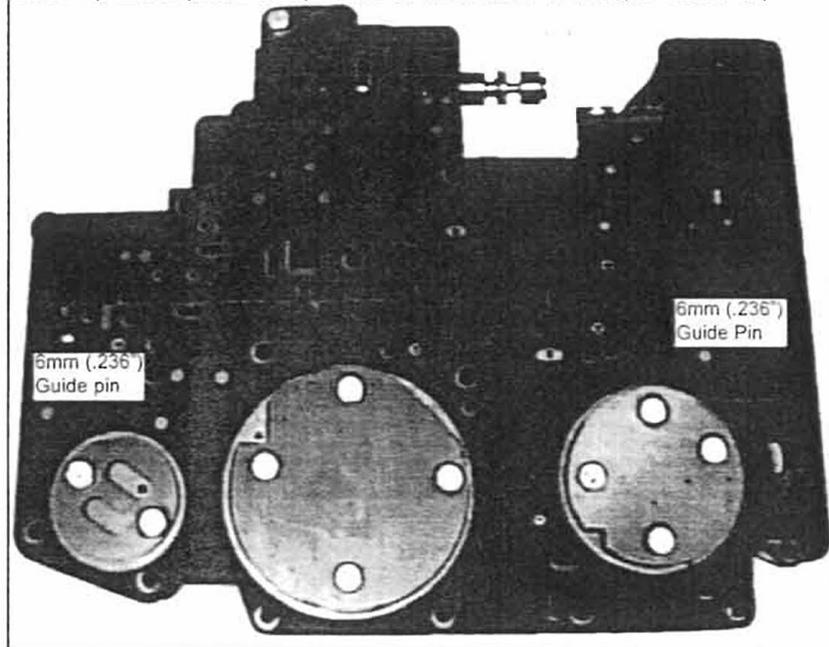
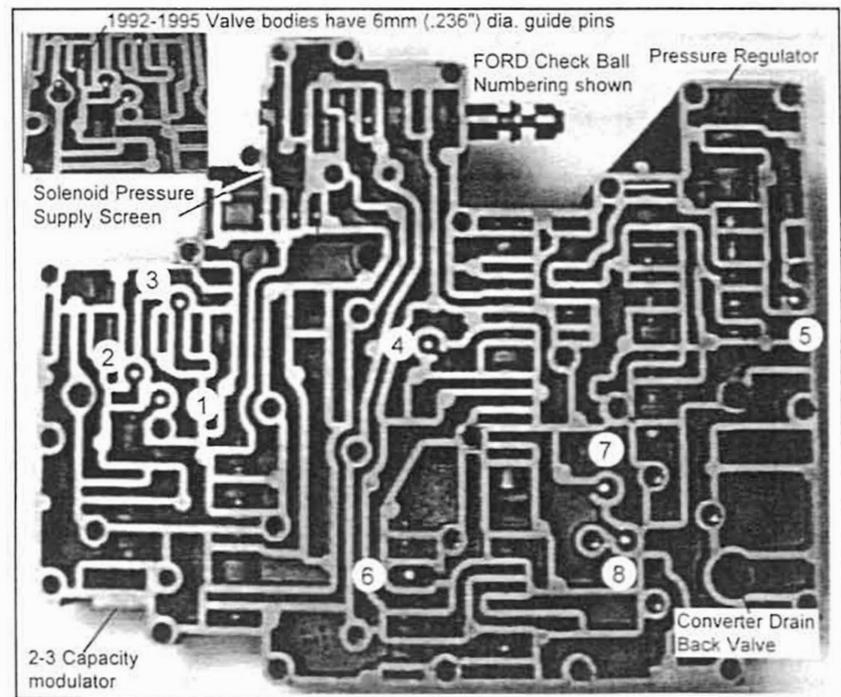

Figure 3. '92-'95 (TYPE A) Valve Body & Cover Plates
Figure 9. '92-'95 Check Ball Locations (TYPE A Valve Body)
valve body on a clean surface with the separator plate side facing up. Make a note of the orientation of the three round reinforcement plates (See Fig. 3). Remove the eleven (11) 8mm hex head bolts holding the three (3) round reinforcing plates and separator plate to the valve body. Carefully lift the separator plate and gaskets off the valve body. Remove Check Balls, Solenoid Pressure Supply Screen and Converter Drain Back Valve (See Fig. 9). Remove all of the old separator plate gasket material from the case, valve body and separator plate surfaces. Rinse parts with solvent.
**Step 12.** Install all 8 Check Balls, Solenoid Pressure Supply Screen and Converter Drain Back Valve into valve body (See Fig. 9 or 12). Make sure the two (2) guide pin bolts are installed